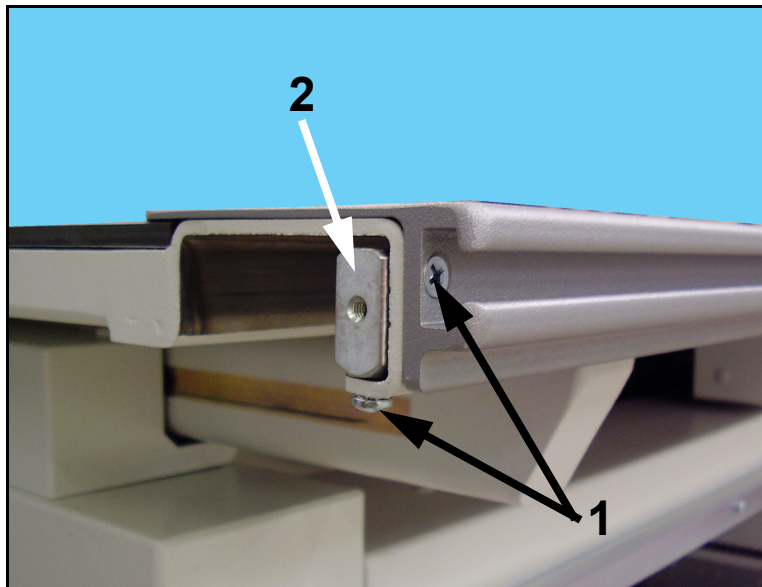

Figure 6-21. Bumper Removal
- 2 Unscrew the bumper screws (1 in Figure 6-21) and remove the bumpers (2) from all four corners of the table top.